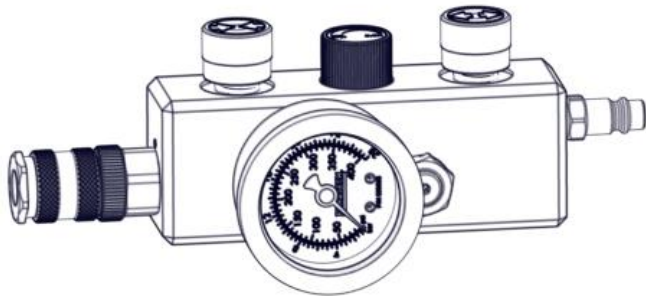

Figure 1-31B Single Strut Controller
- b. **Single strut controller.** The Single Strut Controller (Figure 1-31B) is a single input/single output controller incorporating quick disconnect hose fittings two pushbuttons to apply "UP" and release "DOWN" air pressure to strut and a bypass valve to permit constant air flow to the strut. A pressure gauge is provided to monitor the air pressure applied to the strut and a 250 psi (17.2 bar) relief valve is incorporated to limit the applied air pressure.